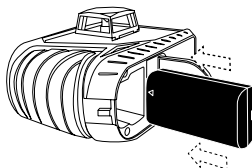

FIGURE 3
- Open the battery cover door and insert the battery tray (Fig.3)